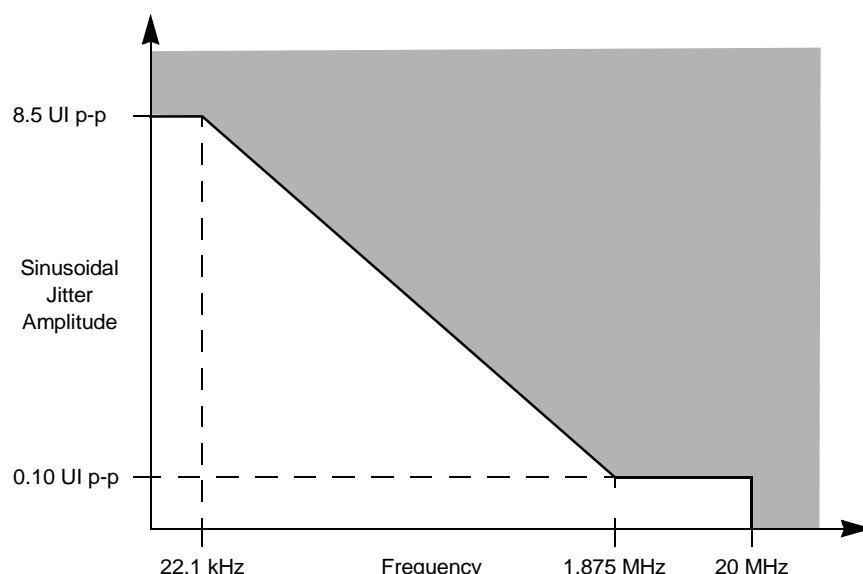

Figure 18. Single Frequency Sinusoidal Jitter Limits
2. Total jitter is composed of three components, deterministic jitter, random jitter, and single frequency sinusoidal jitter. The sinusoidal jitter may have any amplitude and frequency in the unshaded region of Figure 18. The sinusoidal jitter component is included to ensure margin for low frequency jitter, wander, noise, crosstalk, and other variable system effects.
| 1. See Figure 18 for single frequency sinusoidal jitter limits | | | | | | |
| 2. Refer to RapidIO™ 1x/4x LP Serial Physical Layer Specification for interpretation of jitter specifications. Also see Figure 18 . | | | | | | |